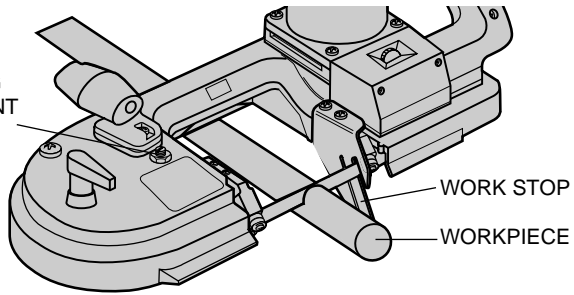

FIG. 10
1. AT LEAST TWO TEETH OF THE SELECTED BLADE SHOULD ALWAYS BE ENGAGED IN THE MATERIAL (FIGURE 10). Otherwise, the moving teeth will tend to grab the material causing tooth breakage and possible blade failure. Thin materials will require fine pitch blades (more teeth per inch).